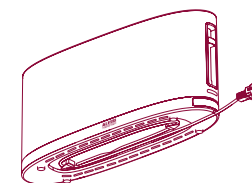

Fig. 2
- Adjust the cord to the length needed to reach the electrical outlet (use the winder located under the base) (fig. 2). Insert the plug into the outlet .